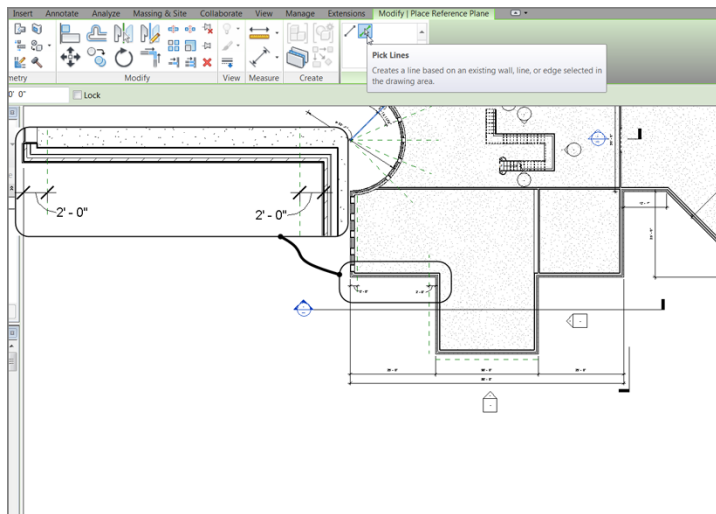

FIGURE 16.27: Offsetting two reference planes 2’–0” (600mm) from the face of brick
3. Offset a reference plane 2’–0” (600mm) from the face of brick, as shown in Figure 16.27.